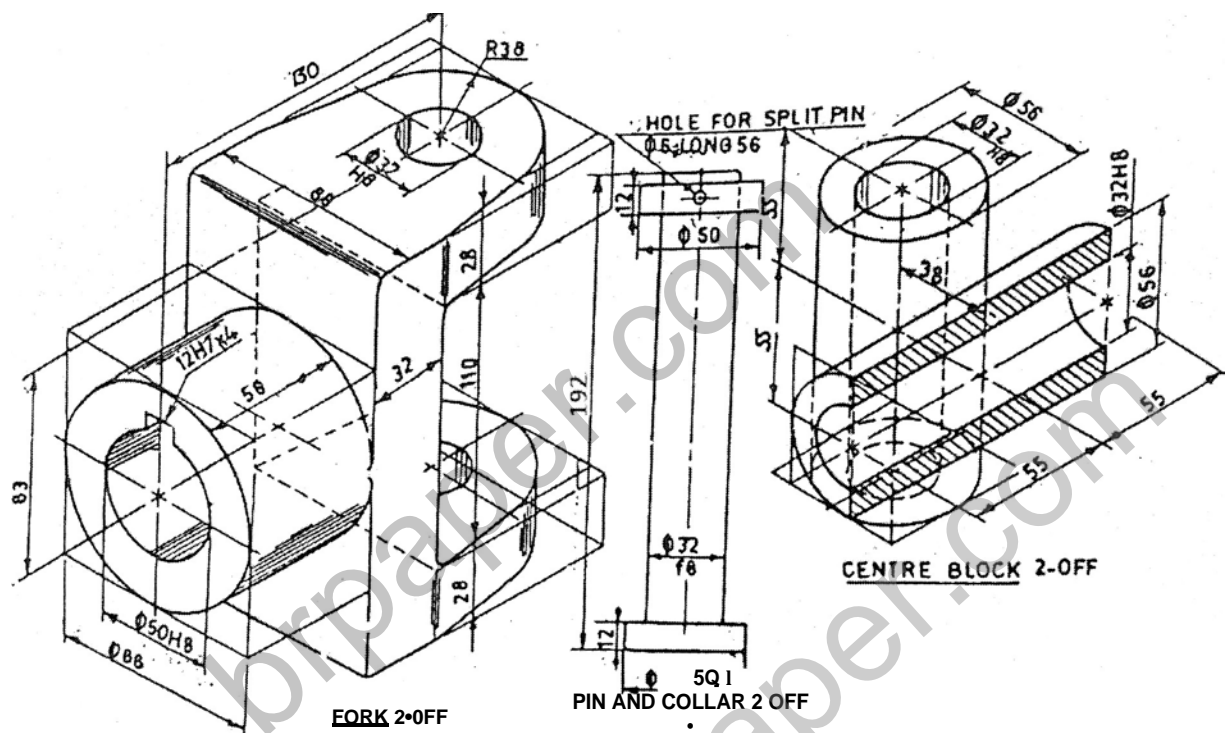

Fig 1: Universal Coupling
6. Figure 1 show the detail of a Universal coupling. Assemble the given components and draw the front view (Lower half in section), top view and side view of assembly.